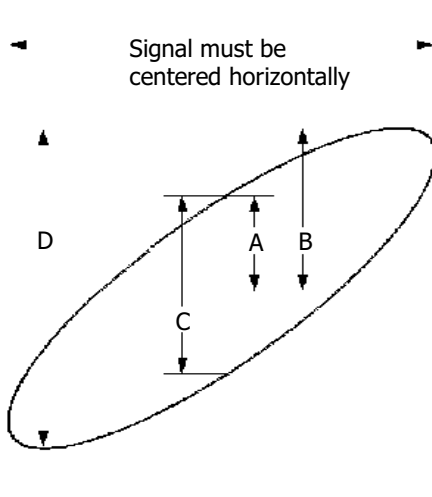

Figure 4-1 Measurement Schematic Diagram of Phase Deviation
4. Observe the measurement result shown in the figure above. According to the measurement schematic diagram of the phase deviation (as shown in Figure 4-1), $A/B(C/D)=1$. Thus, the phase deviation angle of the two channel input signals is $\theta=\pm\arcsin 1=90^\circ$.